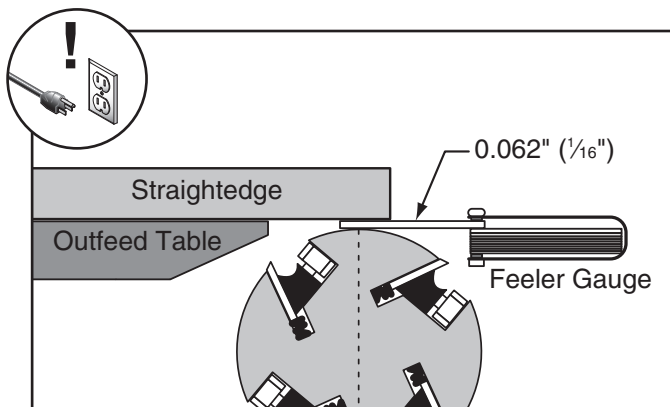

Figure 57. Using feeler gauge to set outfeed table height.
5. Place the straightedge on the outfeed table so it hangs over the cutterhead, and lower the outfeed table until the straightedge is 0.062" ($\frac{1}{16}$ ") above the cutterhead body, as determined by using the feeler gauge or combination of feeler gauges (see **Figure 57**).